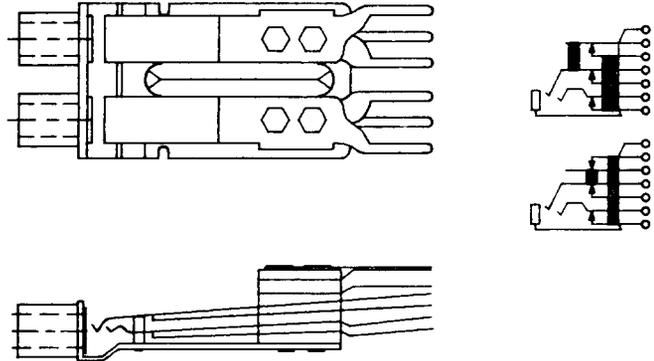

Fig. 5—655AM Jack
2.05 655AM: The 655AM jack is a singly-mounted, 3-conductor, twin-type jack (Fig. 5) for mating with a 338- or similar-type twin plug. Each jack's tip and ring elements contains an isolating (break) contact with one twin having an insulated break contact and the other an insulated make contact. All terminals are equipped for solderless wrap connections and the frame has one centrally located mounting hole. The jack is used on the DSX1 interbay patching jack circuit.